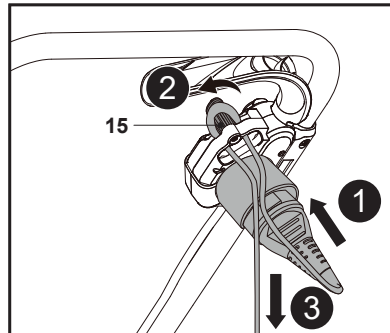

Fig. 9
1. Attach the outlet end of an extension cord to the mower's power inlet. Make a loop in the extension cord and hang the loop onto the cord strain relief (15). (Fig. 9, steps 1, 2).
2. Gently tug on the extension cord to ensure that it is firmly secured (Fig. 9, step 3).